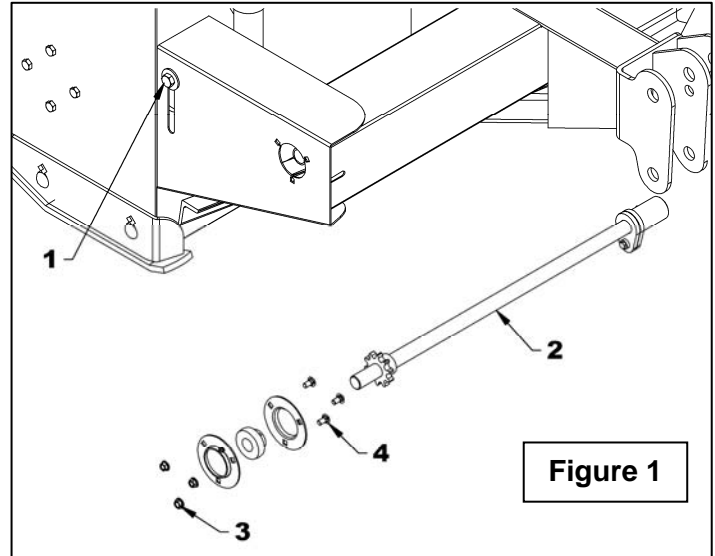

Figure 1
- Figure 1:** Loosen the idler bolt (item 1). Remove the chain taking care to remember its course and the orientation of the coupling link lock.
- Figure 1:** Remove the drive shaft (item 2) by unscrewing the three bolts and nuts (items 3-4).